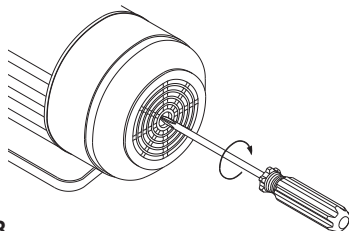

Fig. 8
3. If the pump shaft is seized up after periods of inactivity, please place a screw driver from the motor end to rotate the shaft. It should free the pump shaft. (See Fig 8) If this does not remedy the problem, the unit will need dismantling.